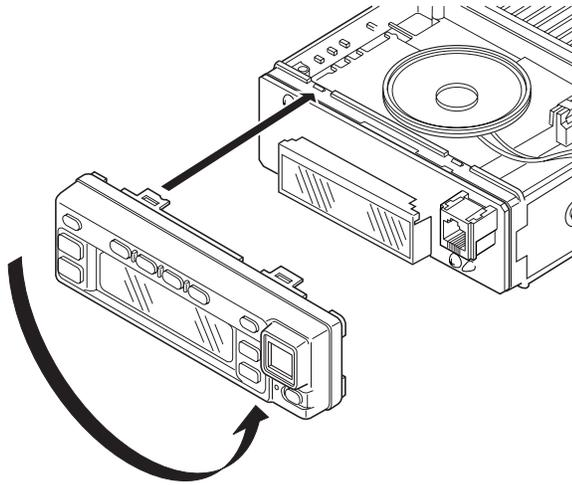

Fig. 11
6. Rotate the control panel 180 degrees and mount it on the transceiver. Refit the two halves of the case to complete installation. (Fig. 11)